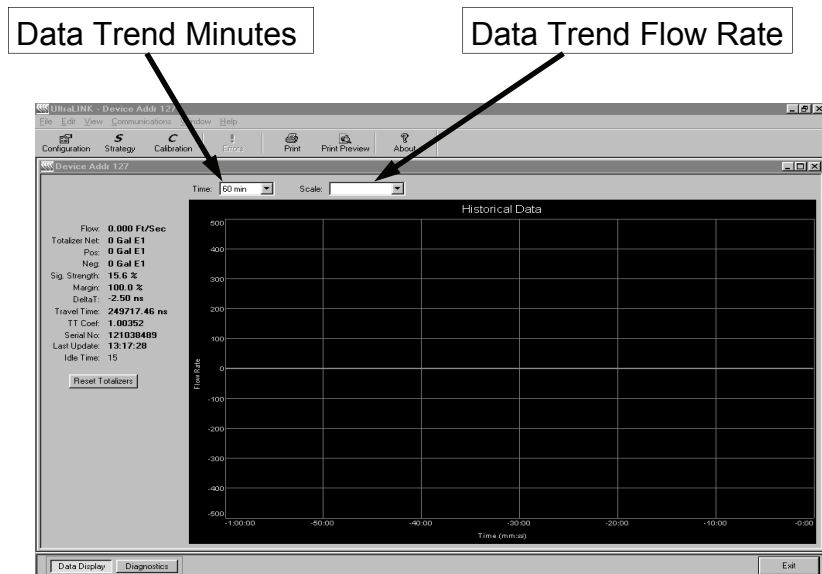

Figure 3.2
2. Double-click on the *ULTRALINK™* icon. The first screen is the "RUN-mode" screen, see **Figure 3.2** on page 3.2, which contains real-time information regarding flow rate, totalizer accumulation, system signal strength, diagnostic data and the flow meter's serial number. The indicator in the lower right-hand corner will indicate communications status. If a red **ERROR** is indicated, click on the Communications button on the top bar.
- **Vol. Correction Sig. Str. Limit** is a feature used to provide volumetric compensation for gas bubbles that can be present in liquid systems. The TFXL measures the velocity of the liquid in the pipe and converts that velocity to volume by multiplying the velocity by the cross-sectional area of the pipe. If there are gas bubbles within the liquid, the gas is displacing some of the liquid and errors can occur. When Vol. Correction Sig. Str. Limit is set to zero, the compensation function is not operational. To use the feature, enter the maximum Signal Strength observed on the flow meter after installation. The maximum signal strength should occur with the pipe completely full of liquid and the flow stopped. Signal Strength can be observed on the *ULTRALINK™* Data Screen. See **Figure 3.2** on page 3.2.